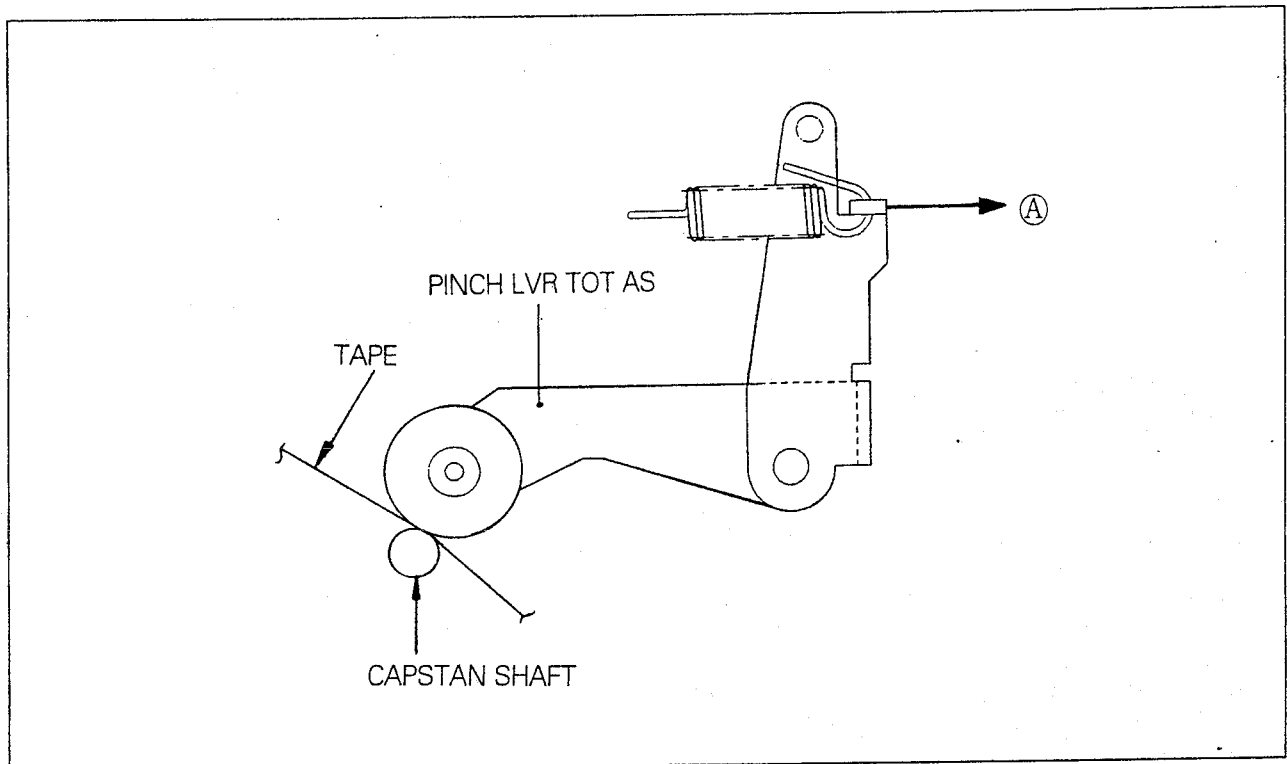

Fig. 4-5 MEASUREMENT OF PRESSING FORCE FOR PINCH ROLLER
- 2) After hanging the PUSH-PULL GUAGE on the HOOK of PINCH LEVER TOTAL AS, pulling it to the direction of (A) indicated by the arrow as shown Fig. 4-5.